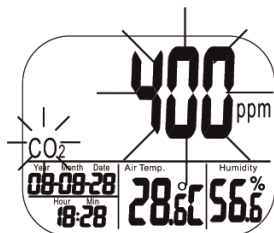

Fig. 21: Display during the CO₂ calibration
- Turn on the meter and hold down SET, LOG/▲ and MIN/MAX▼ simultaneously and more than 1 second to enter CO₂ calibration mode, Fig. 21.
400 ppm and CO₂ are blinking on the LCD while performing calibration, Fig. 21. Wait about 30 minutes until the blinking stops and the calibration is completed automatically. The meter will return to normal mode now.